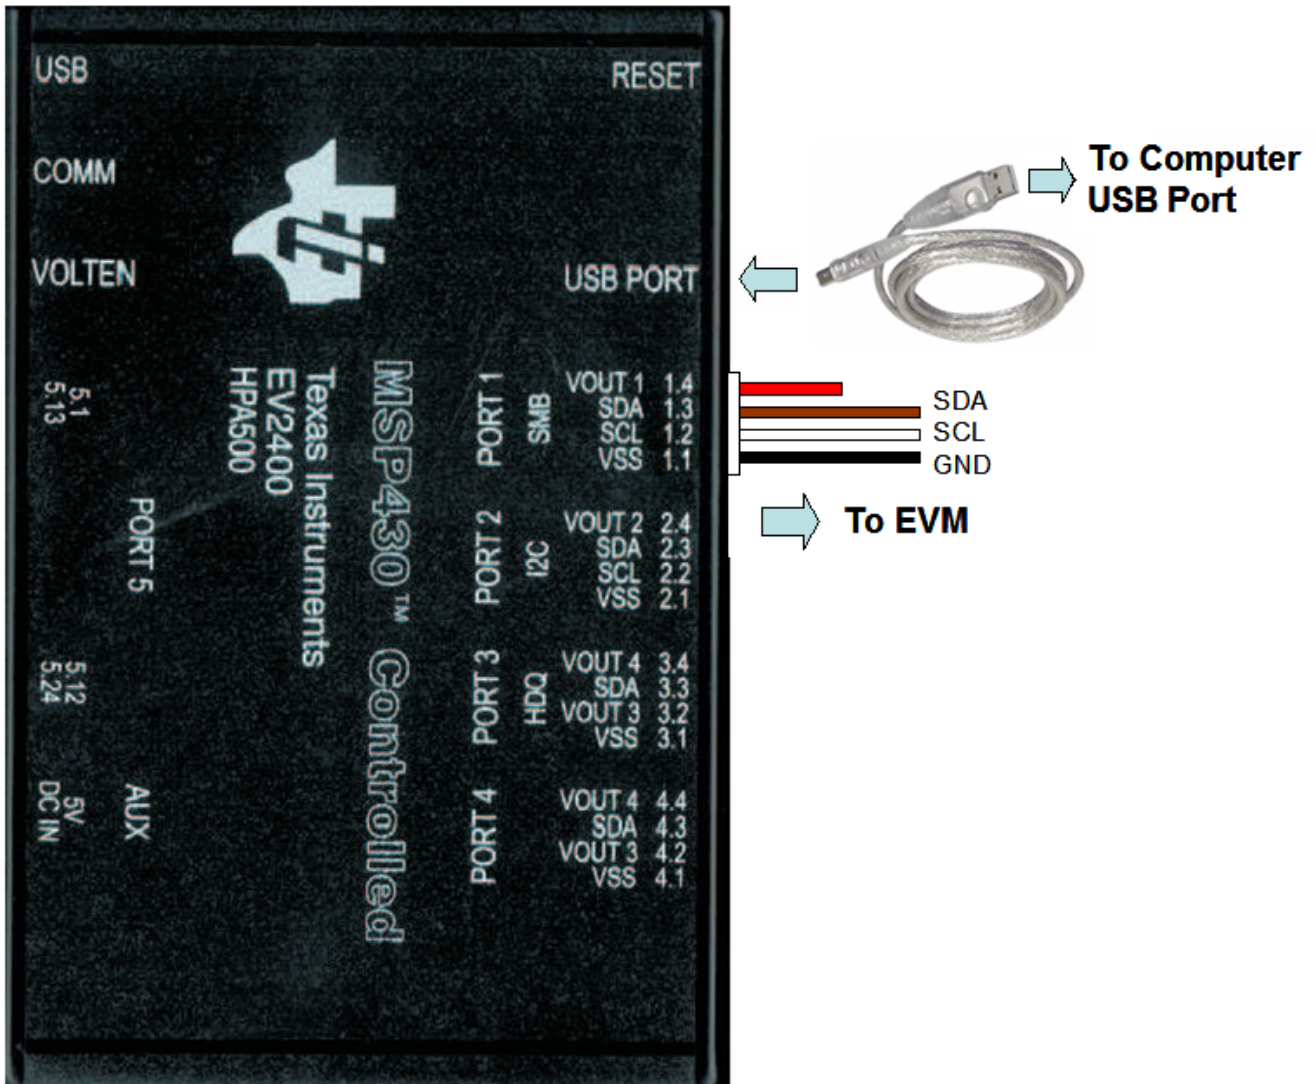

Figure 1. Connections of the EV2400 Kit
- (A) Set the PS#1 for 0 V \pm 100 mVDC, with the current limit set to > 5 A, then turn off supply.
- (B) Connect the output of PS#1 in series with a current meter (multimeter) to J1 (DCIN, GND).
- (C) Connect a voltage meter across J1 (DCIN, GND).
- (D) Set the PS#2 for 3.3 V \pm 100 mVDC, 0.2 \pm 0.1 A current limit and then turn off supply.
- (E) Connect the output of the PS#2 to J3 (3.3V) and J4 (GND).
- (F) Connect a voltage meter across J4 (BAT, GND).
- (G) Connect a voltage meter across J4 (SYS, GND).
- (H) Connect J2 (SDA, SCL) and J2 (GND) to the EV2400 kit SMB port. Refer to Table 3 for a connection reference. Connect the USB port of the EV2400 kit to the USB port of the computer. The connections are shown in Figure 1.